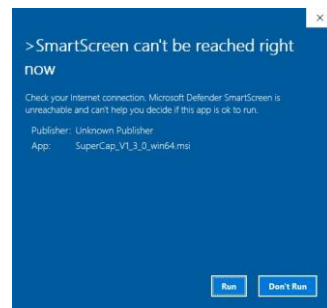

Figure 4-7: Welcome Screen
Step 2: A message screen appears (Figure 4-7). To continue the installation process click Run.